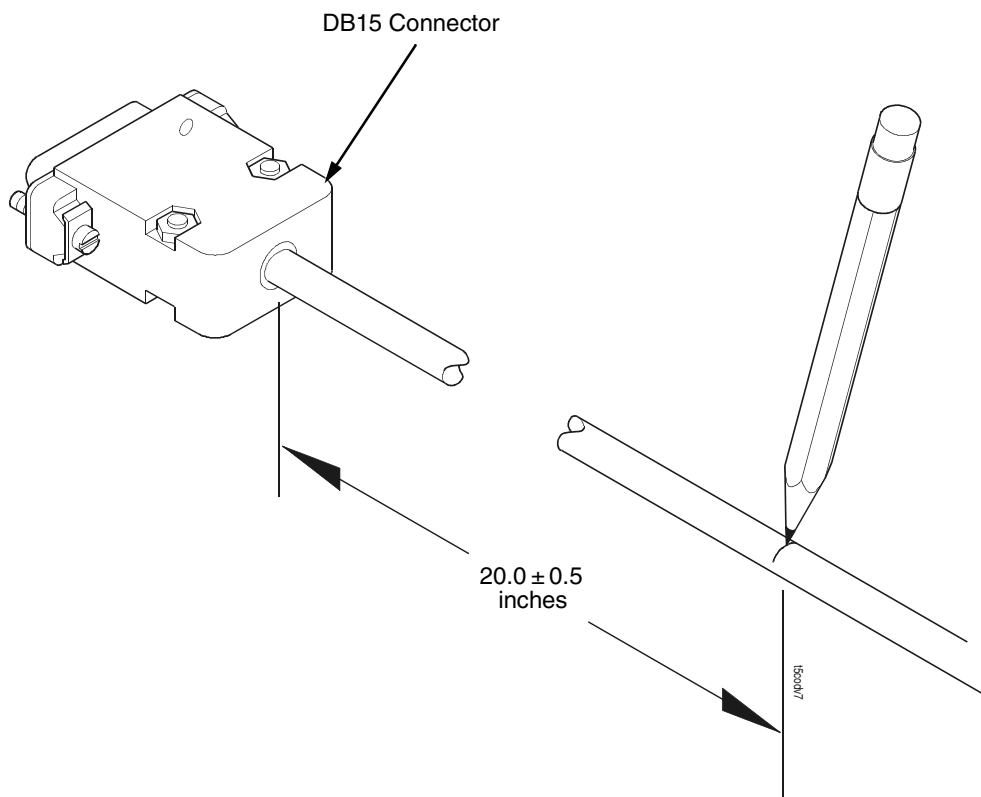

**Figure 2. Removing the Frame Side Cover**
1. Loosen the two captive screws securing the top of the frame side cover. (Figure 2.)
4. Tighten the two captive screws. (Figure 2.)